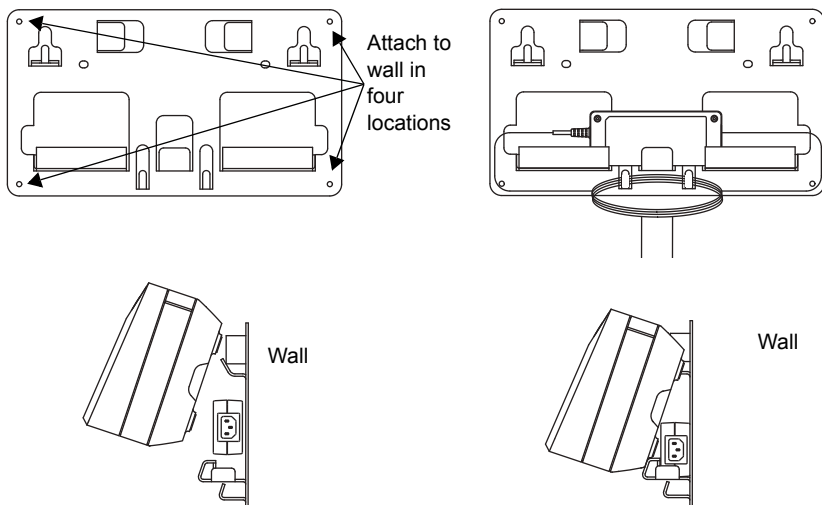

Figure 26: Mounting Multi-Unit Charger to Wall Bracket
4. Hang the Multi-Unit Charger on wall bracket as show in Figure 26.